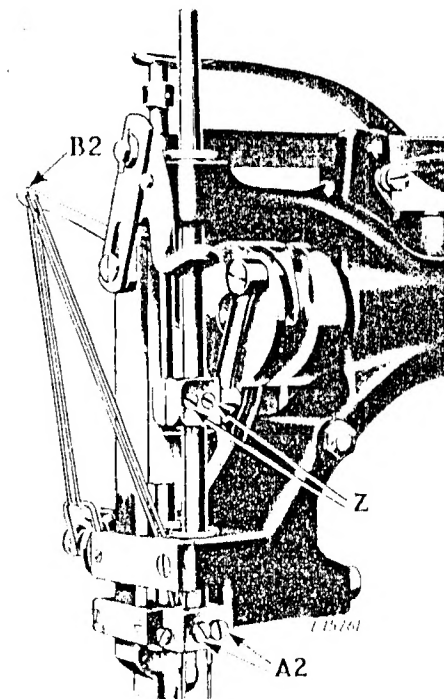

Fig.25. To Set Needle Bar; To Set Needle Clamp; To Time the Feed
To adjust, loosen the two clamping screws (Z, Fig. 25) and move the needle bar up or down as required, then securely tighten the clamping screw (Z).
The needle clamp is adjustable to right or left. To adjust, loosen the two clamping screws (A2, Fig. 25, page 23) and move the clamp to the left or right, as required, to bring the needles as close as possible to, but without actually touching, the shuttle points. Securely tighten the two screws (A2).
For general sewing conditions, the feed dog should be set to start to feed the work when the thread take-up lever (B2, Fig. 25, page 23), on its upward stroke, has traveled approximately 1-3/4 inch from its lowest position. WHEN THE MACHINES LEAVE THE FACTORY, THEY ARE PROPERLY TIMED and no adjustment is necessary unless the position of the feed cam has been disturbed.